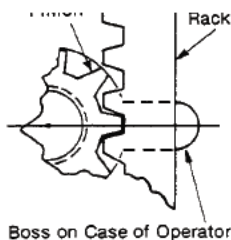

Figure-9
3. With actuator in full clockwise (closed) position, rotate motor pinion until a pinion tooth lines up with center lines of boss (Figure-9) on actuator case; slide washer and pinion on shaft. Mark this tooth for future reference.
5. Align actuator so that marked tooth of pinion engages with third tooth space from top of rack. Mount actuator to linkage with the actuator mounting screws (4). Apply "locktite", Grade CV, to screw threads.